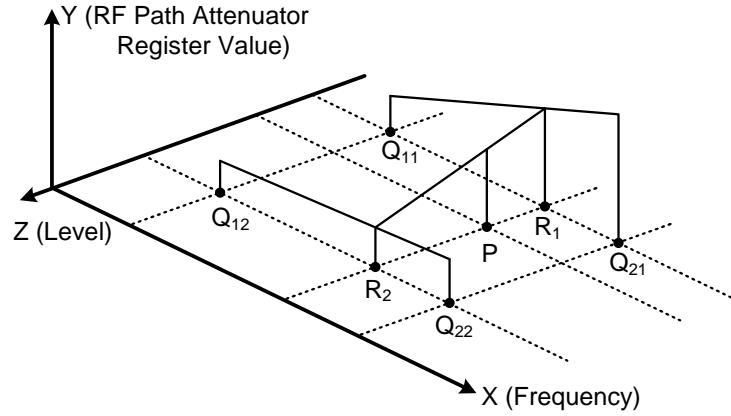

Figure 24: Bilinear interpolation
calibration points (Q_{11} , Q_{12} , Q_{21} , Q_{22}) around the point which Gain value we need to find (P), see fig 24. X axis means frequency in MHz, Z axis – output level in dBm, Y – Gain value. So we have $Q_{11} = (x_1, z_1)$, $Q_{12} = (x_1, z_2)$, $Q_{21} = (x_2, z_1)$, $Q_{22} = (x_2, z_2)$, $P = (x, z)$, $Y(Q_{11})$, $Y(Q_{12})$, $Y(Q_{21})$, $Y(Q_{22})$ – are calibration values, and we need to find $Y(P)$.